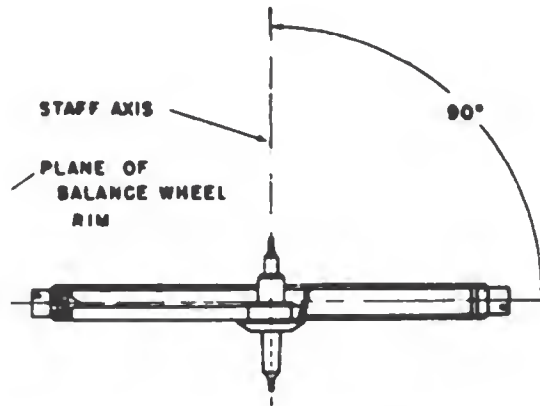

Figure 35. — Balance wheel with all parts of the rim in the same plane.
1. All parts of the rim must lie in the same plane (figure 35).